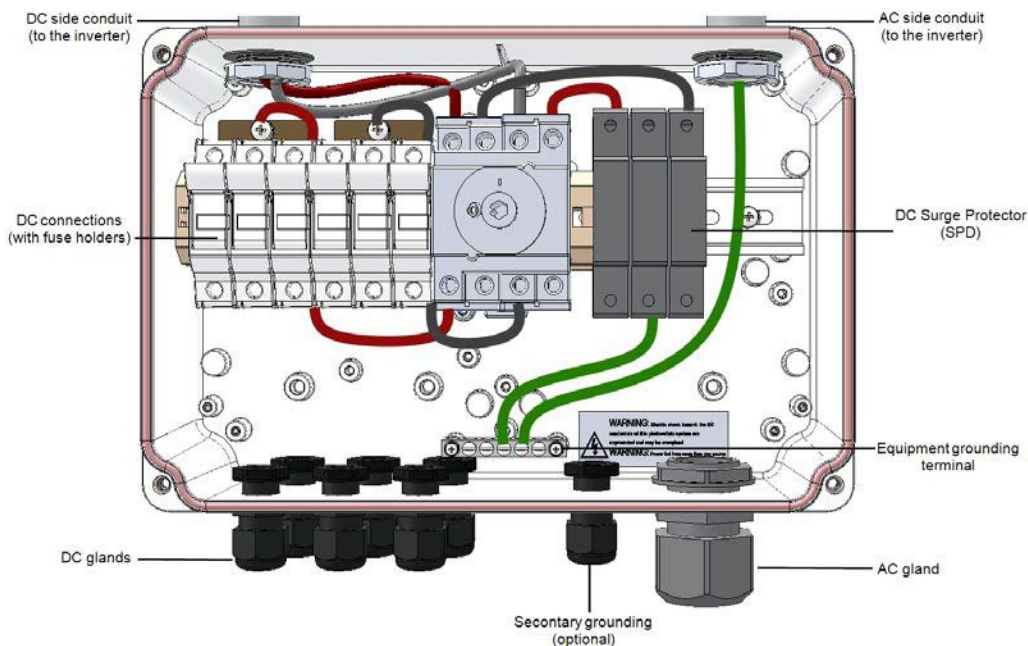

Figure 26: Inside the DC Safety Unit with fuses
6. Open the AC cable gland and insert the cable through the gland (see *Figure 26*).